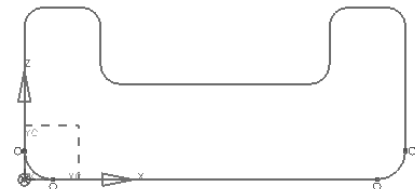

Figure 2-56 Sketch after creating fillets
7. Right-click, and then select the **OK** option from the shortcut menu to exit the **Fillet** tool. The fillets are created, refer to Figure 2-56.